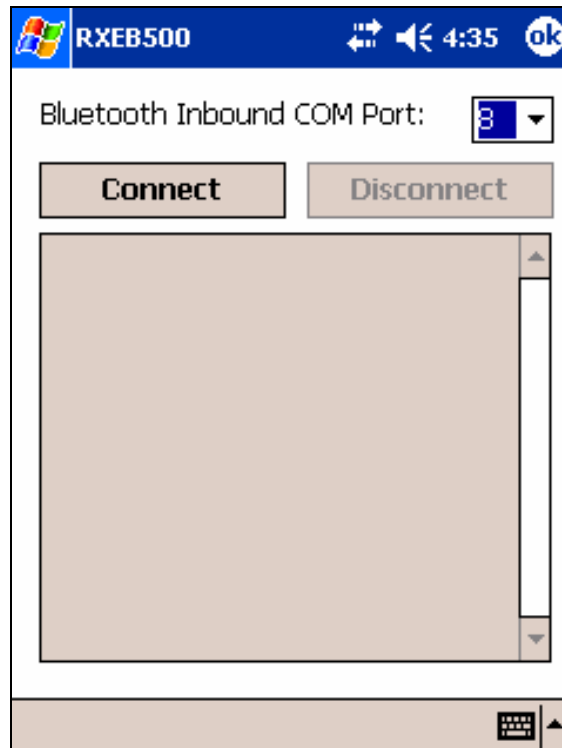

Figure 14: RXEB500 Pocket PC Application
9. Run the **RXEB500** Application (Figure 14).